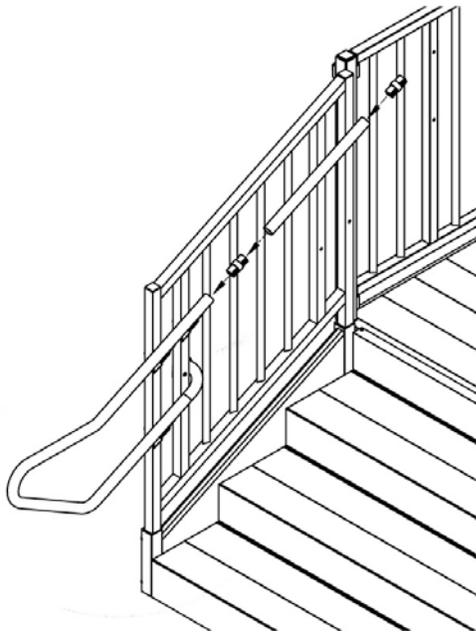

FIG. 18
- 4.3 Install a 4" ring joiner into the open end of the bottom loop (with the setscrew on the bottom) and slide the handrail section over the other end of the joiner (FIG. 18).
- 4.4 Install another 4" ring joiner into the upper end of the handrail section (with the setscrew on the bottom) (FIG. 18).